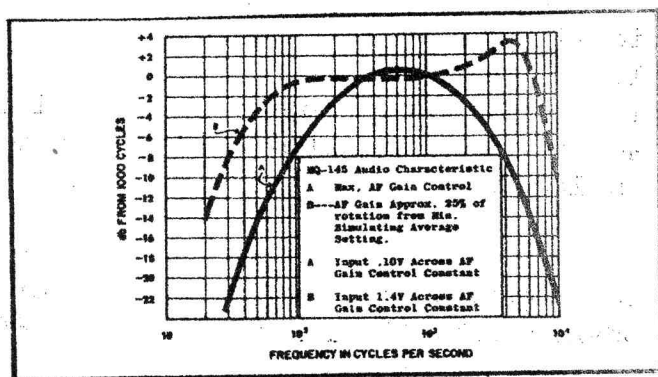

Fig. 7
*** The Slot Frequency control provides an extremely sharp adjustable slot or hole in the selectivity curve (See Figure 7). It is normally located outside of the passband of the 455 Kcs IF Amplifier system. It is brought into the passband for the purpose of eliminating interference from heterodyne signals on AM and monkey chatter on SSB. On CW Reception, the Slot Filter will materially aid in reducing or eliminating adjacent or co-channel interference.
The output circuit of the first 455 Kcs IF amplifier consists of two IF transformers T9 and T10 which are interconnected by means of a network of resistors, capacitors, and coils comprising the Slot Filter section. This low-impedance network forms a balanced bridge arrangement known as a Bifilar "T" trap. The slot filter inductor L3 and slot tuning capacitor C22 (with capacitors C20, and C21) form a tuned circuit which presents a very high impedance to signals passing through at the resonant frequency (See Figure 7). Resistive balance is controlled by the Slot Depth potentiometer R21.